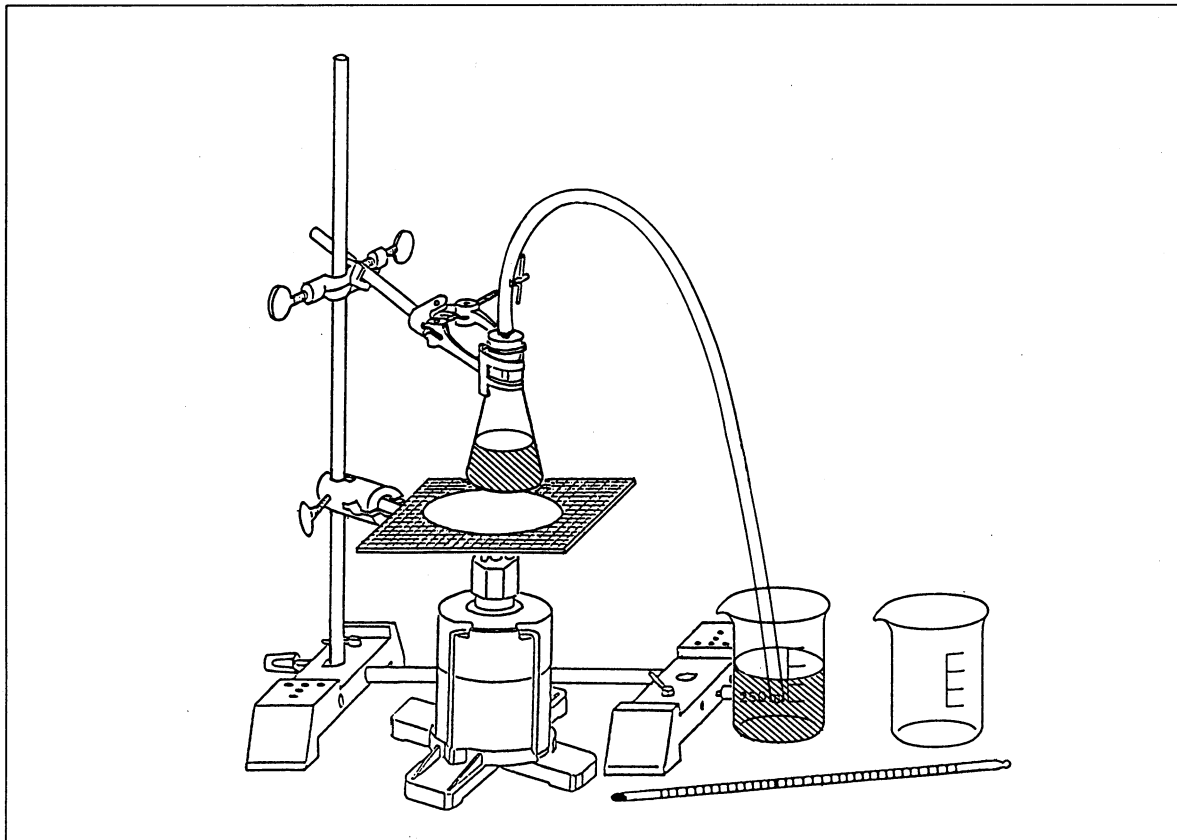

Fig. 1 Experimental setup for condensing water vapour
1. Set up the stand as shown in fig. 1.